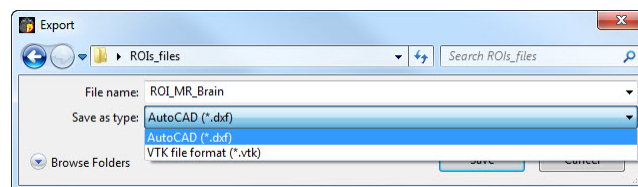

Figure 178 – Export dialog
2. Select desired file format, file name and target folder in the **Export** dialog (see Figure 178), which will be opened.